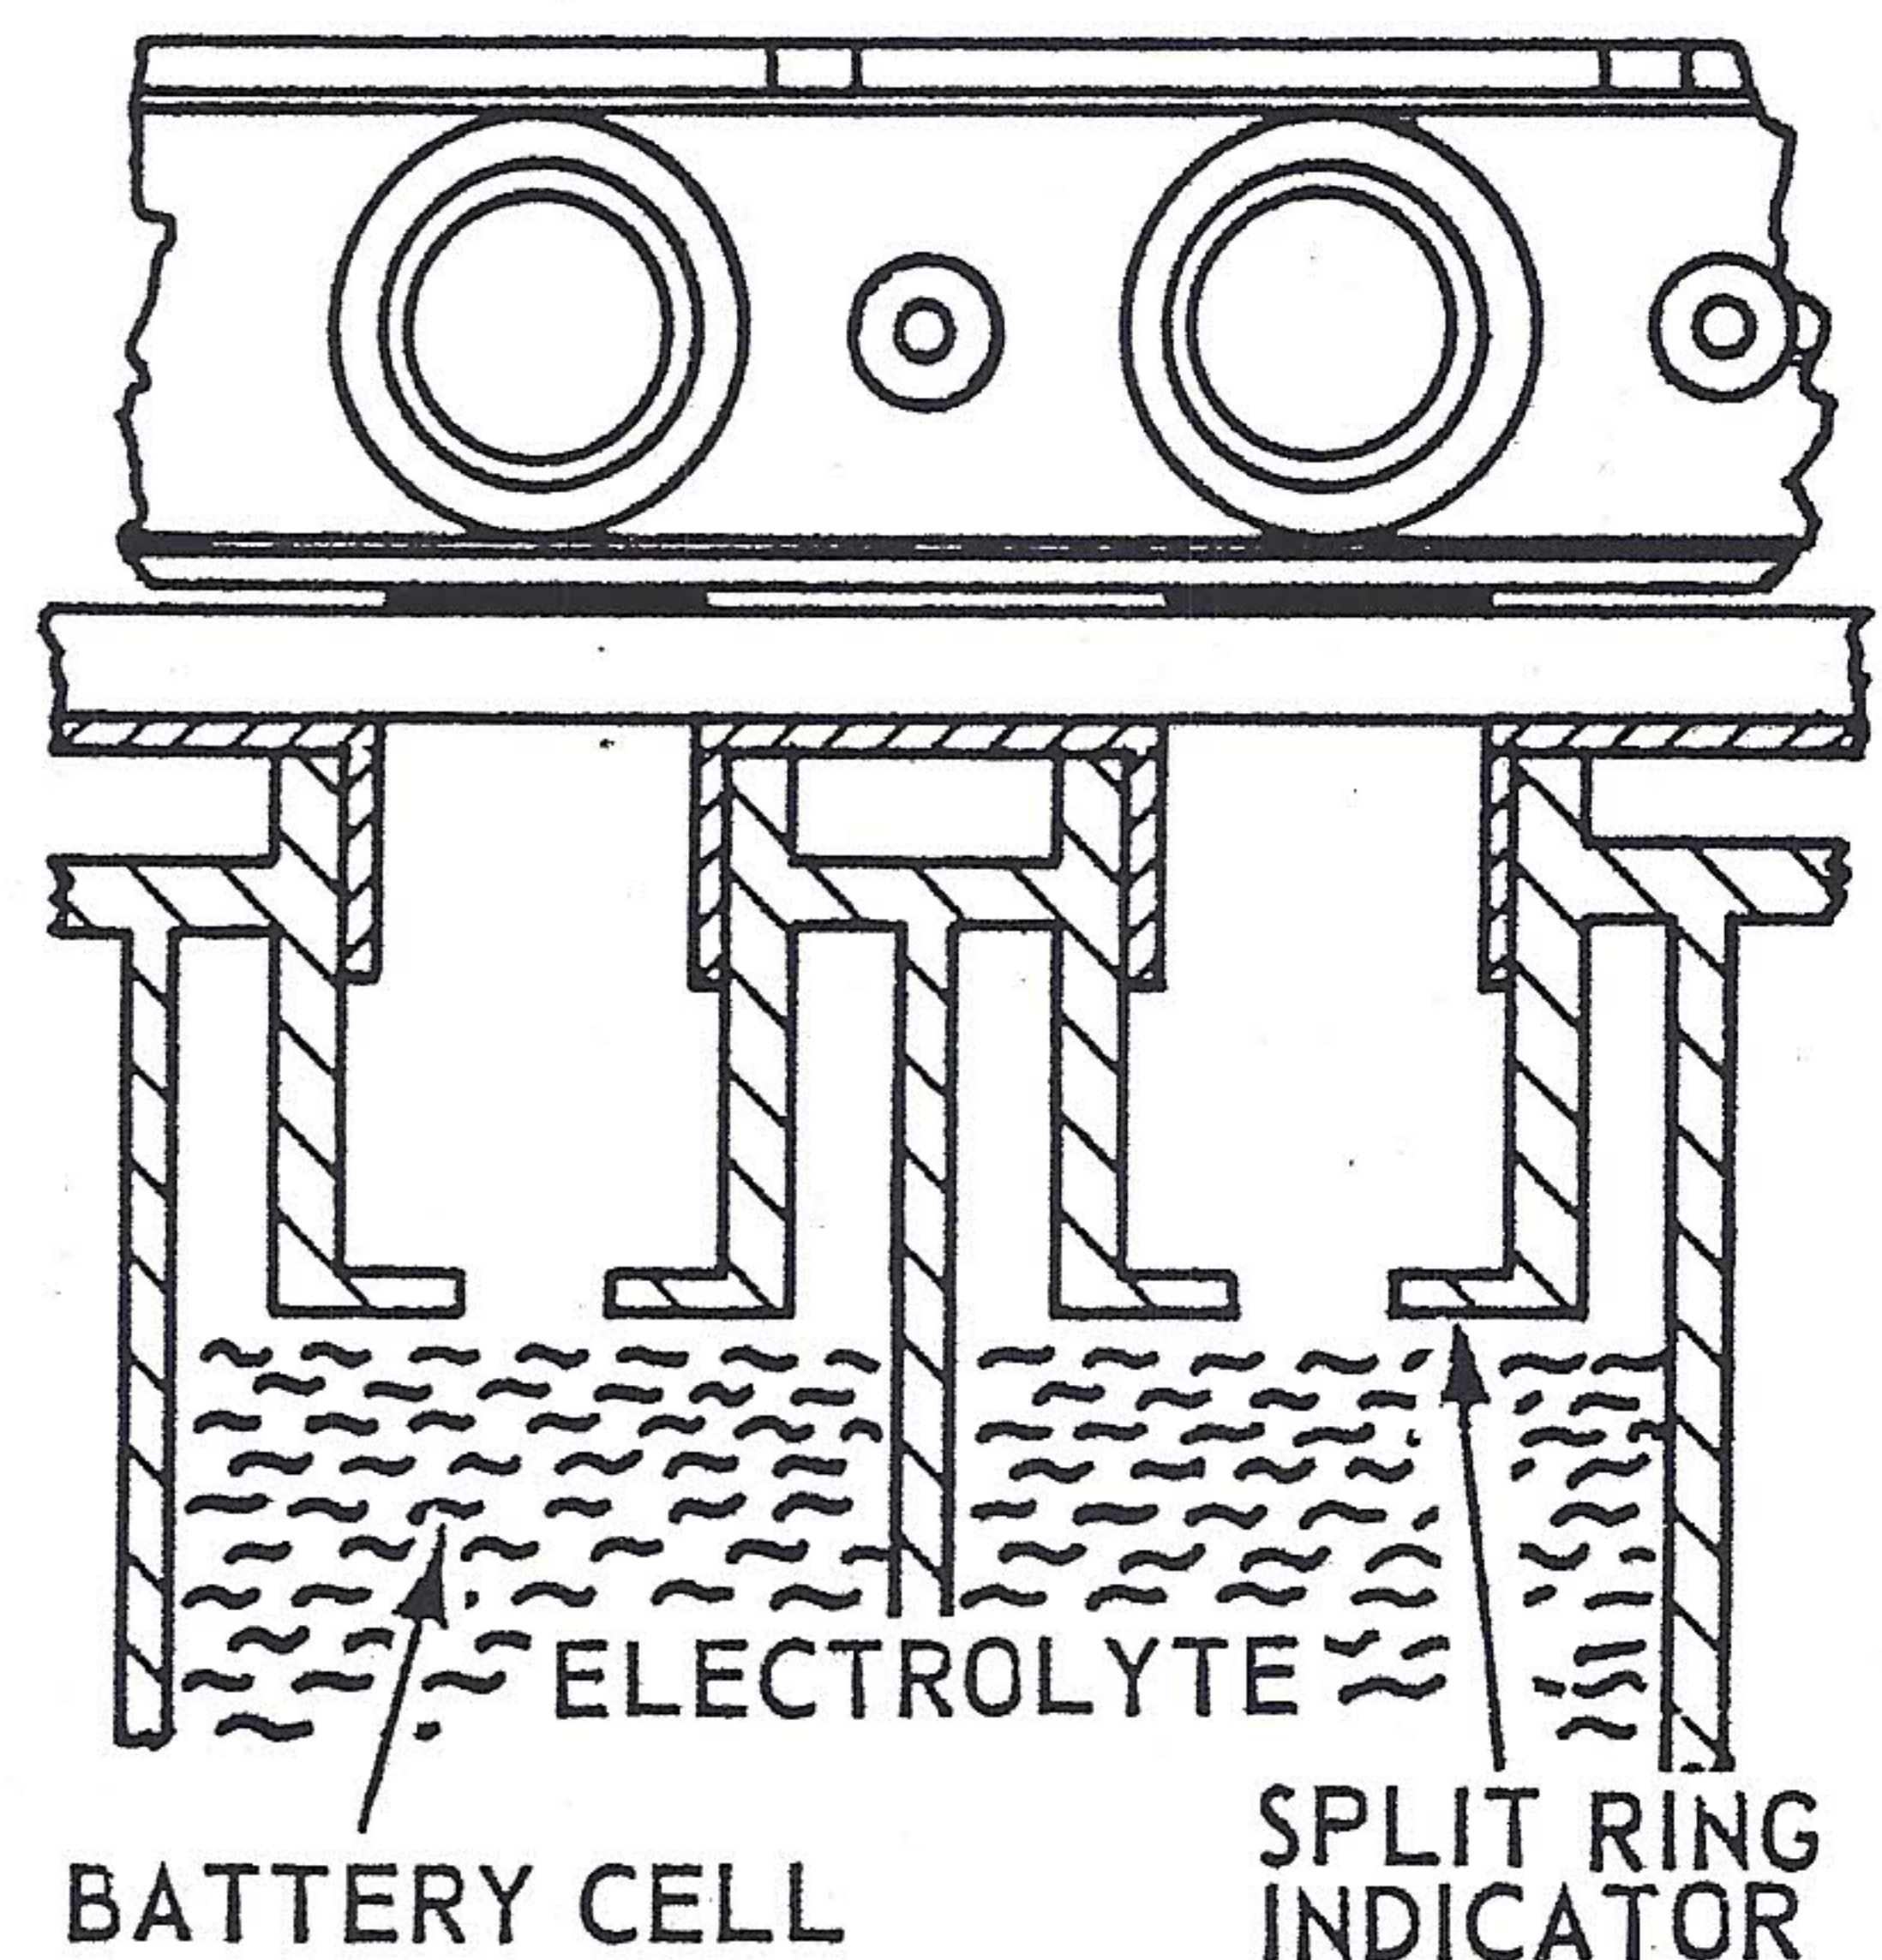

FIG. 3
1. After charge cycle is completed, fill each battery cell to split ring indicator (refer to Fig. 3). Again take proper precautions against acid spilling.